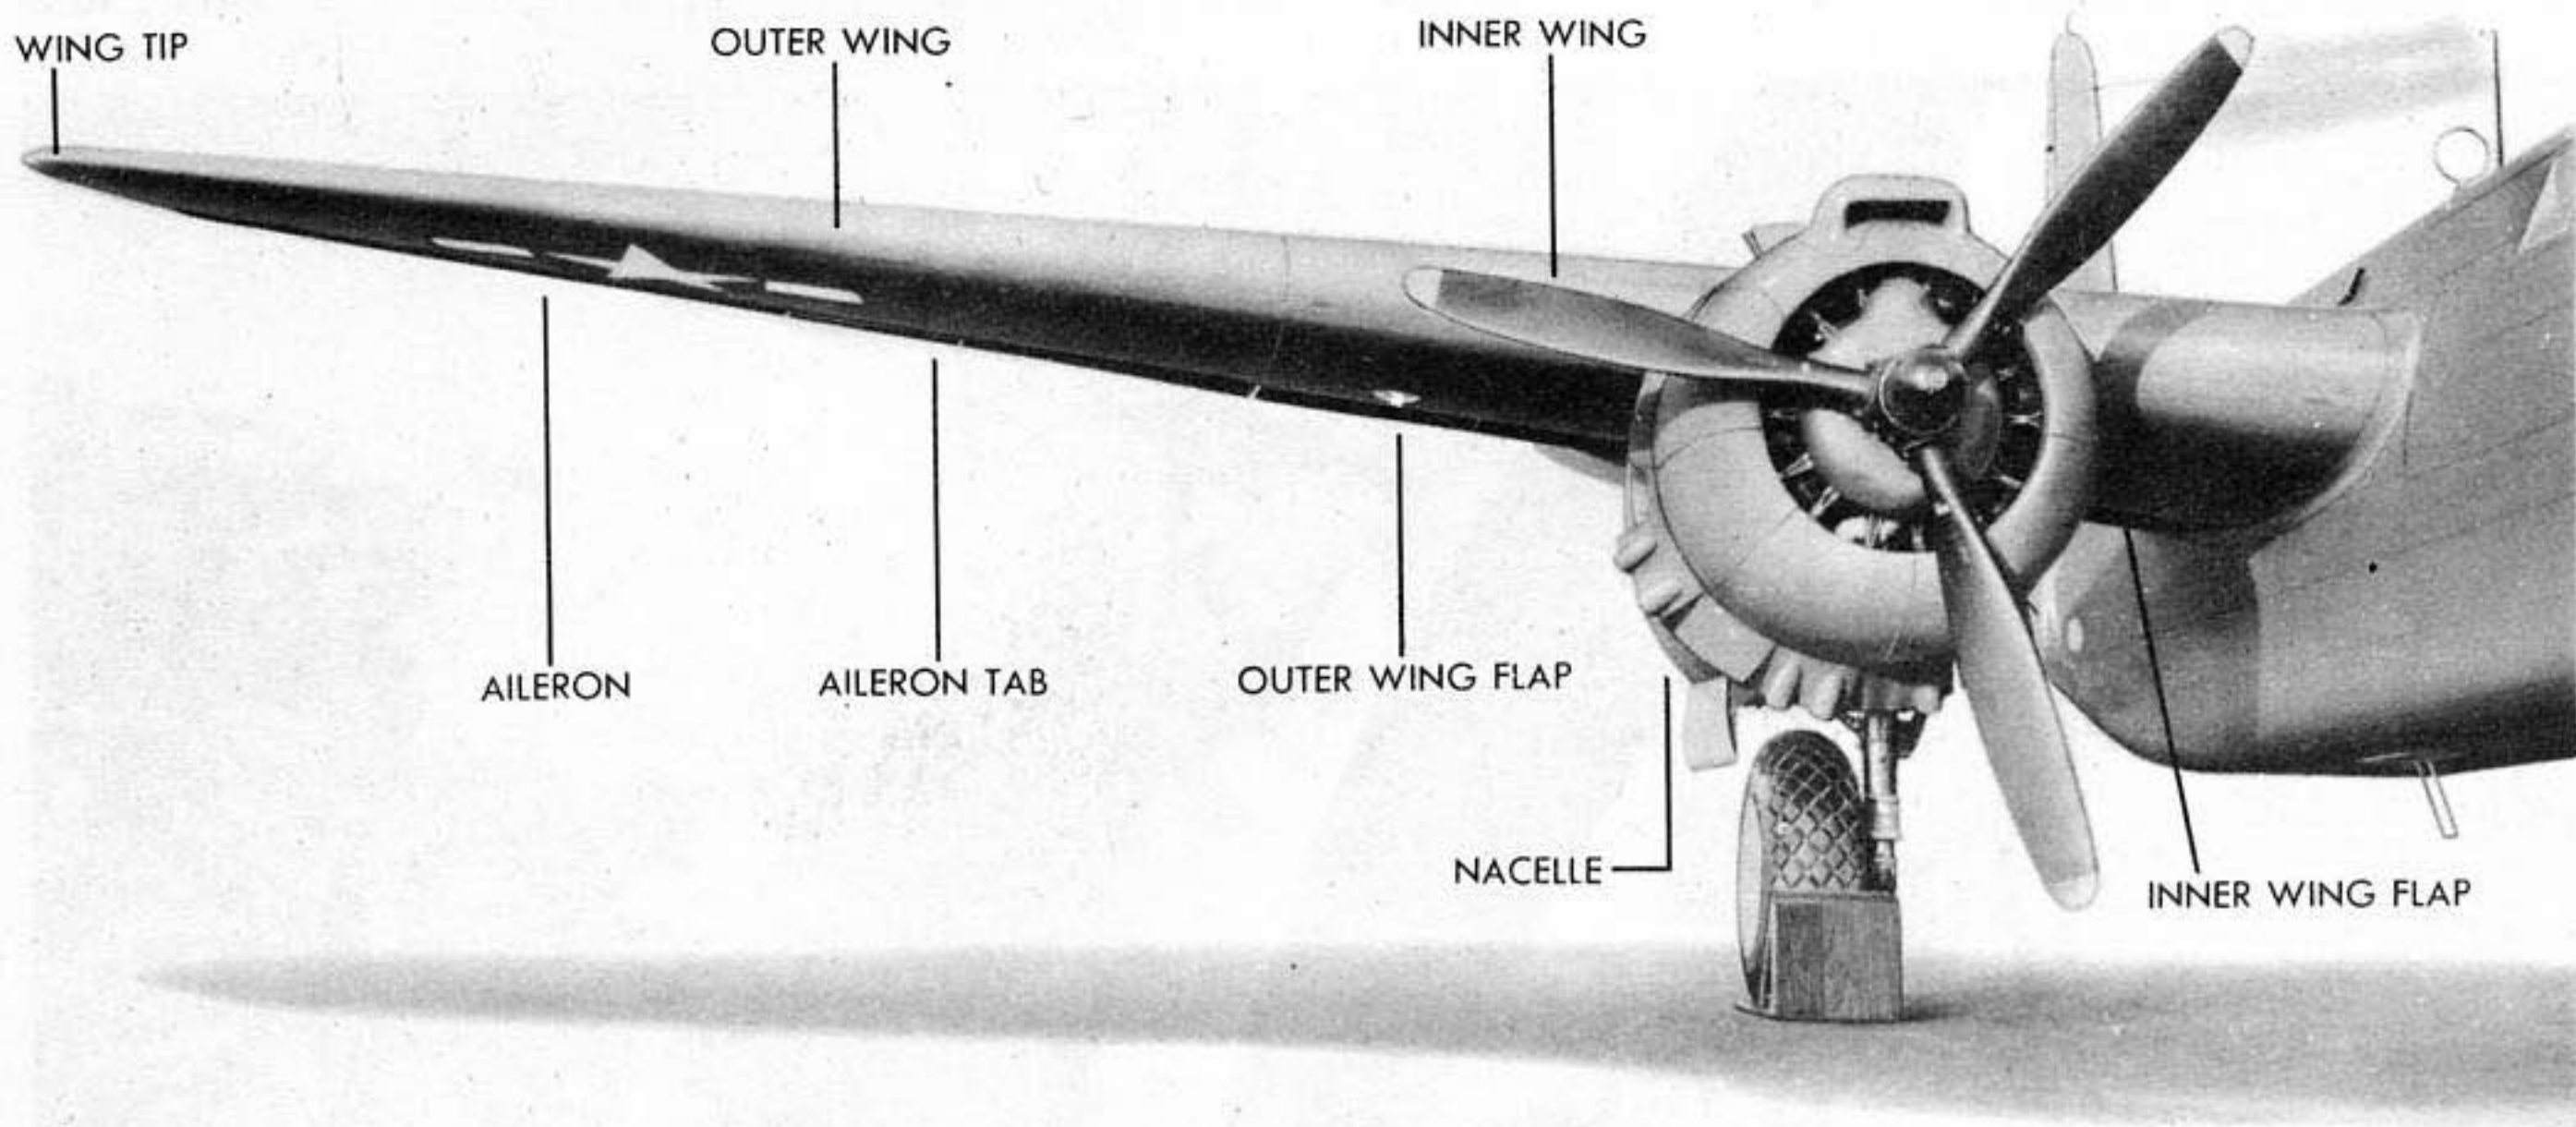

Figure 25 - INSTALLED WING
The engine nacelles are an integral part of the inner wings. Two landing flaps are secured to the trailing edges of the outer wings. (See figure 25.) Access doors and cover plates are located throughout the wings to provide for inspection and maintenance. (See figure 19.)
(2) WING TIPS. - The wing tip (figure 25) forms the outboard end of each wing and is formed of alclad sheet ribs, extruded angle longitudinals of aluminum alloy and alclad covering. Formation signal lights are located on the top and bottom sides of the wing tips. Each tip weighs slightly over five pounds.
(3) **AILERONS AND AILERON TABS.** - The aileron (figure 25) incorporates a main spar and an auxiliary spar for the tab to be fastened upon, with ribs spaced at approximately 12-inch intervals throughout the span. Sheet alclad is used for construction of the leading edge of the aileron to which are attached lead weights for static balance. These weights are secured to the alclad sheeting by flathead screws and elastic stop nuts or self-locking fiber insert nuts. Then the entire surface of the aileron is covered with fabric. The aileron tab is constructed of sheet alclad and, while it is part of the aileron, it may be operated with, or independently of, the aileron to control balance of the airplane in flight. The aileron is mounted on three hinging brackets at the rear shear web of the outer wing. Removal and assembly of the aileron and tab may be performed without removing the outer wing from the airplane. Each aileron weighs about 44 pounds.
(4) **OUTER WINGS.** - The outer wing (figure 25) incorporates a main spar and rear shear web with ribs spaced at approximately 12-inch intervals throughout the span. The assembly is made up of the wing, aileron, aileron tab, and wing tip.
(5) **OUTBOARD WING FLAPS.** - The flaps (figure 25) are hydraulically operated by actuating struts and serve as air brakes to decrease landing speed. The flaps are of all metal construction similar to the wing. Each of the two outboard wing flaps is hinged to the rear shear web of the inner wing outboard of the engine nacelle. A single wing flap weighs approximately 17 pounds.
(6) **INBOARD WING FLAPS.** - The inboard wing flaps (figure 25) are the same construction as the outboard flaps and operate the same. Each of the two inboard flaps is hinged to the rear shear web of the inner wing inboard of the engine nacelle.
(7) **INNER WINGS.** - Each of the two inner wings (figure 25) is of all-metal cantilever construction with an engine nacelle permanently attached. A single spar forms the basic structural unit. The front and rear shear webs provide additional strength. Each wing incorporates two flaps, a retractable landing light, and a detachable leading edge to provide access to the self-sealing fuel containers. An inner wing weighs approximately 2200 pounds without engine or landing gear.
(w) Install inner wing installation sling, special tool, S65-5062401-HF1 (figure 25), if available. When not available, the wing can be supported by a chainfall (not less than 1 1/2-ton capacity) or by block and tackle made of 3/8-inch or heavier manilla rope, or by a sling cradle made of heavy manilla rope. When using a sling cradle, the outboard end of the wing tends to raise too fast and bind the bolt. To overcome this trouble, cinch tightly the two inboard hoist lines and allow the outboard line to be slightly slack.